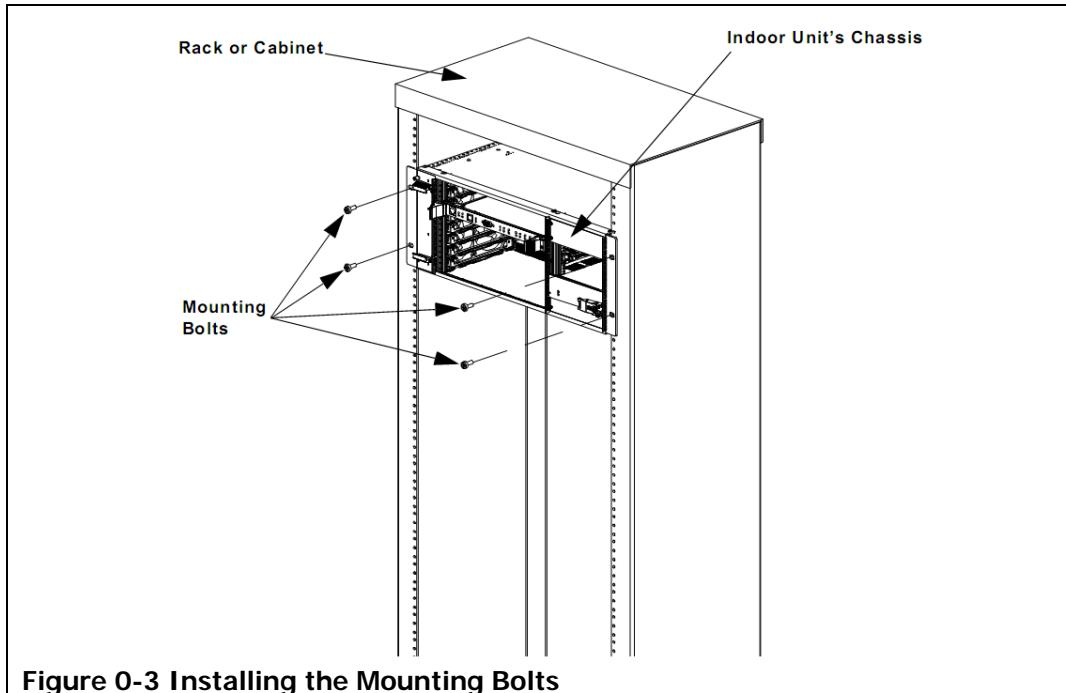

Figure 0-3 Installing the Mounting Bolts
- 1.4. Use the mounting bolt kit that was supplied with your chassis to secure the indoor unit chassis in the rack or cabinet, as shown in Figure 0-3 Installing the Mounting Bolts.